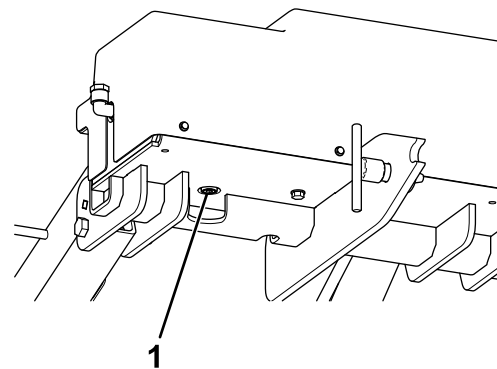

Figure 30
2. Clean the area around the hydraulic drain plug (Figure 30).